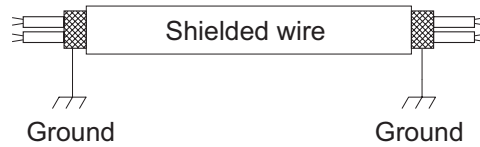

Fig. 1-2
- (3) Use shielded wires for inter-unit control wiring (c) and ground the shield on both sides, otherwise misoperation from noise may occur. (Fig. 1-2)